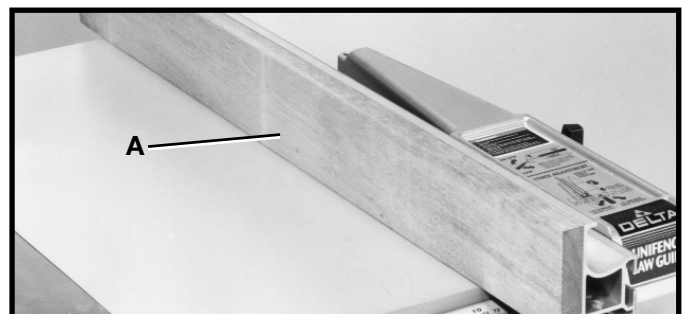

Fig. 58
When performing special cutting operations – and that operation may cause the cutting implement to contact the fence – it is necessary to add a wood facing (A) Fig. 58, to one side of the rip fence as shown. The wood facing is attached to the fence with wood screws through holes drilled in the fence. 3/4-inch stock is suitable for most work, although an occasional job may require one-inch facing.